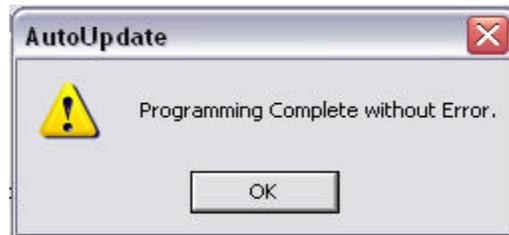

Figure 16 AutoUpdate Complete Screen
7. After Figure 15 automatically closes, Figure 16 will be displayed. Click the OK button and now the uploading firmware process is completed.